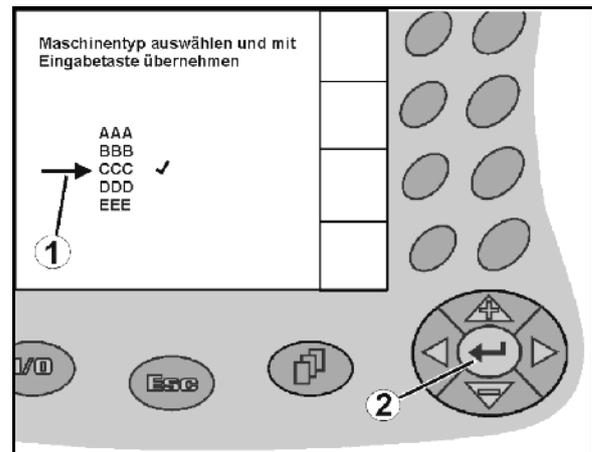

Fig. 14
1.  /  Position the selection arrow (Fig. 14/1).
2.  Apply the selection (Fig. 14/2).